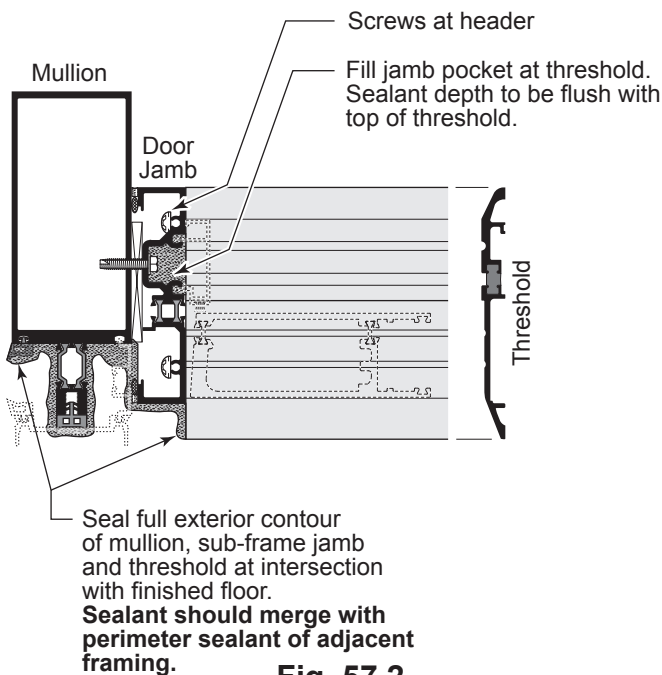
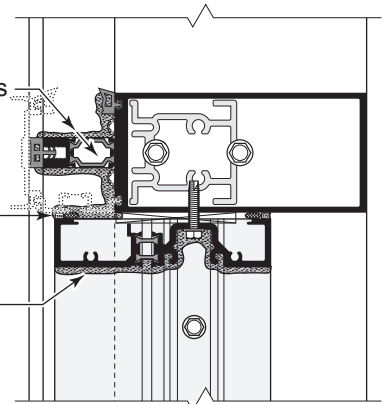

Fig. 57.2
Fig. 57.3
- o Prior to installing the subframe, lay down a bed of sealant where the threshold will be installed. See **Fig. 57.2** and **Fig. 57.3**.
- o Seal the top of the jamb subframe as shown in **Fig. 57.3**.